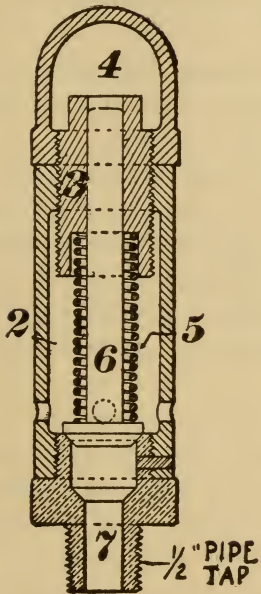

Fig. 39.
A. There should be employed a duplex governor for the air pump and safety valves such as shown in Fig. 39 for the driver and the tender brake cylinders should be provided.
A. As used with the Westinghouse equipment it consists of a duplex governor, a duplex feed valve attachment same as is used by the high speed equipment and safety valves shown in Fig. 39 for the driver and the tender brakes; as used with the New York air brake equipment it consists of a duplex governor, and the safety valves for the engine and tender brake cylinders.